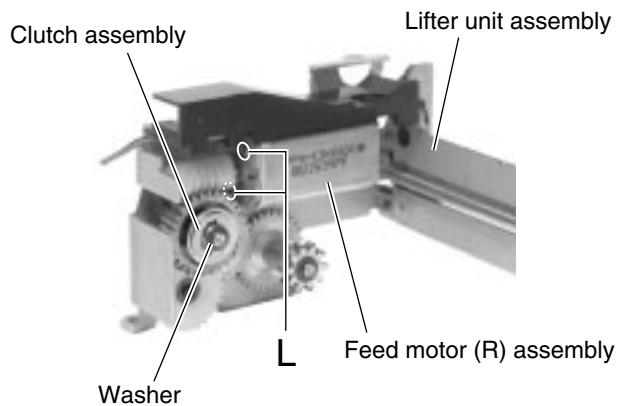

Fig.12
### ■ Removing the feed motor (R) (See Fig.12)